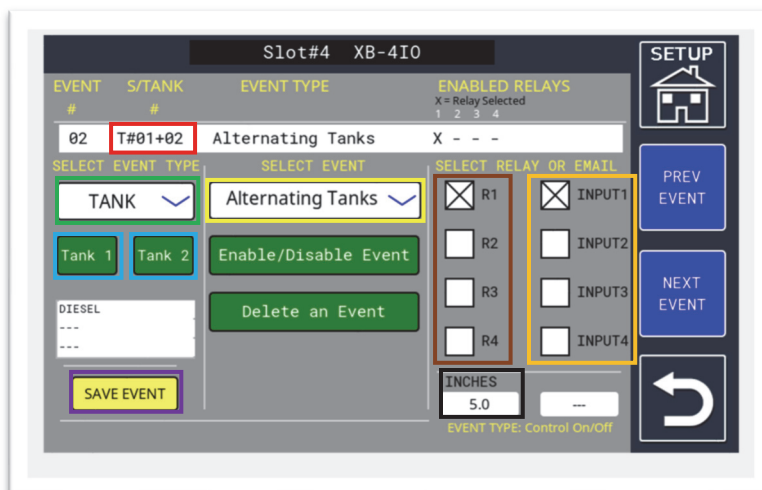

Figure 1.1
- o You can reverse the tank order in Figure 1.1 (see bullet point G on page 1; blue).